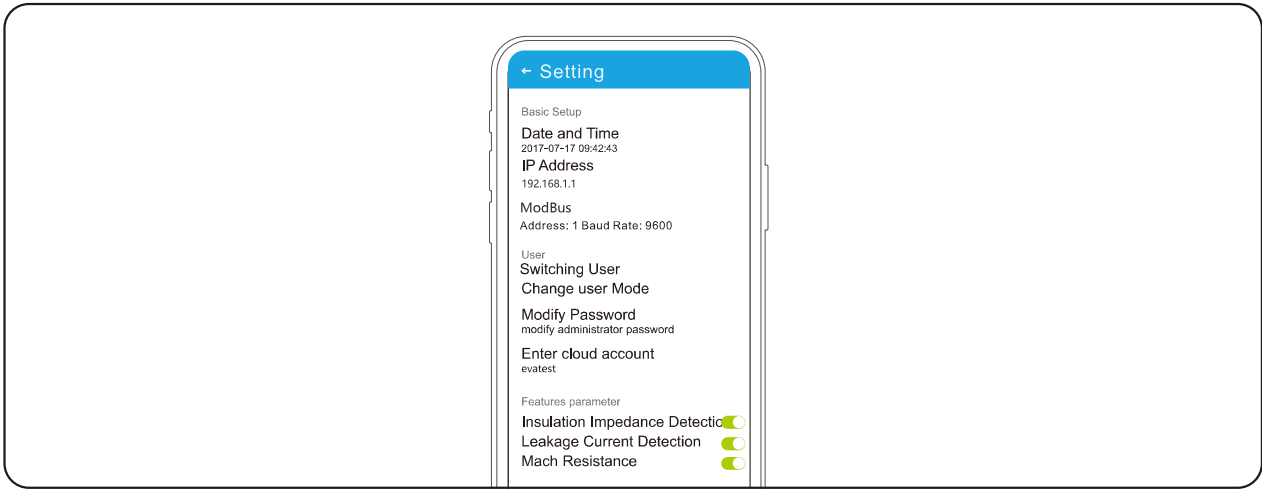

Figure 5.24 Setting Mach Resistances
**Step 4** You can set Mach Resistance of the end of multi-RS485 connection chain, as shown in Figure 5.24.